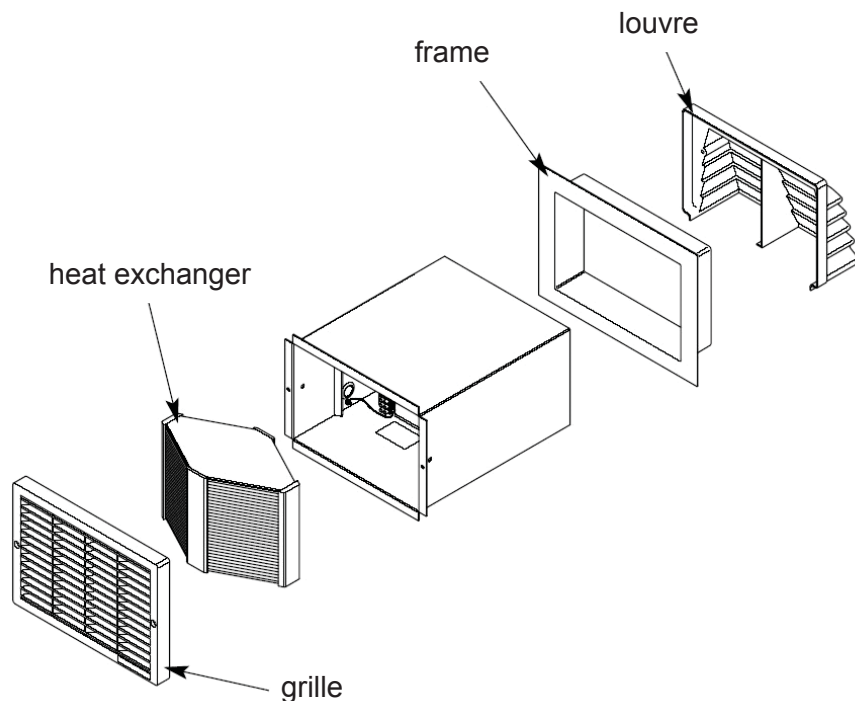

Fig. 5
4. Remove the grille, take out heat exchanger, outer frame and the outer louvre (Fig. 5).